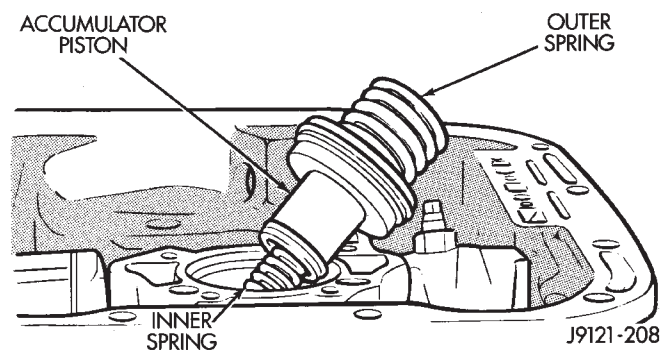
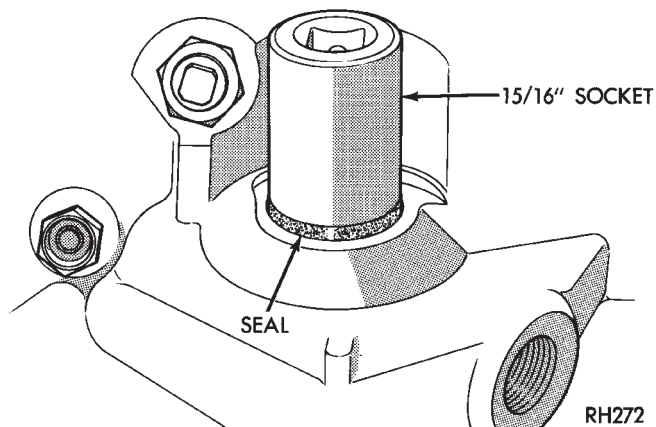

Fig. 143 Accumulator Piston And Springs
Fig. 144 Manual Lever Shaft Seal
- (1) Install accumulator inner spring, piston and outer spring (Fig. 143).
- (2) Verify that park/neutral position switch has **not** been installed in case. Valve body can not be installed if switch is in position.
- (3) Install new valve body manual shaft seal in case (Fig. 144). Lubricate seal lip and manual shaft